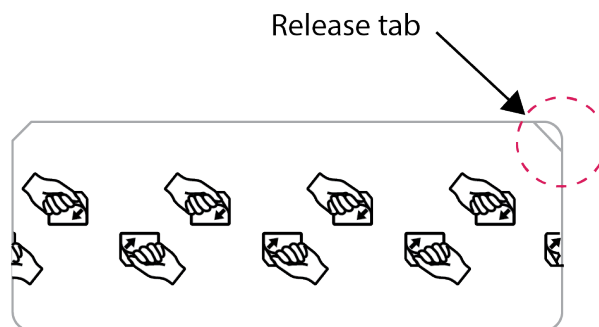

Figure 3 – Location of Release Tab
2. Hold the tag so that the release liner is facing you. Locate the release tab on the upper right corner of the tag (Figure 3). Work the tab back and forth a few times to loosen it. Slightly pull the tab and bend it toward you to detach the tab, peel the release liner, and expose the adhesive.